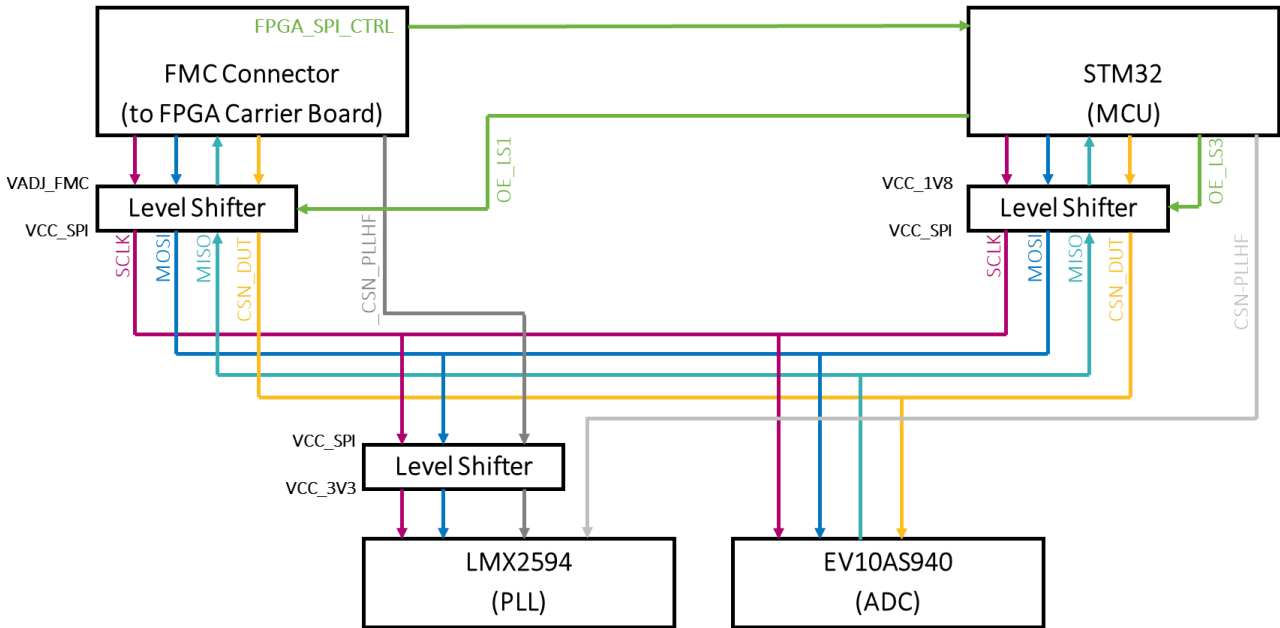

Figure 5: SPI2 Architecture
- SPI2 implements an SPI interface where either the STM32 MCU or the FPGA Carrier board can be set as master, while the EV10AS940 ADC and the on-board PLL are slaves. Figure 5 illustrates this interface.